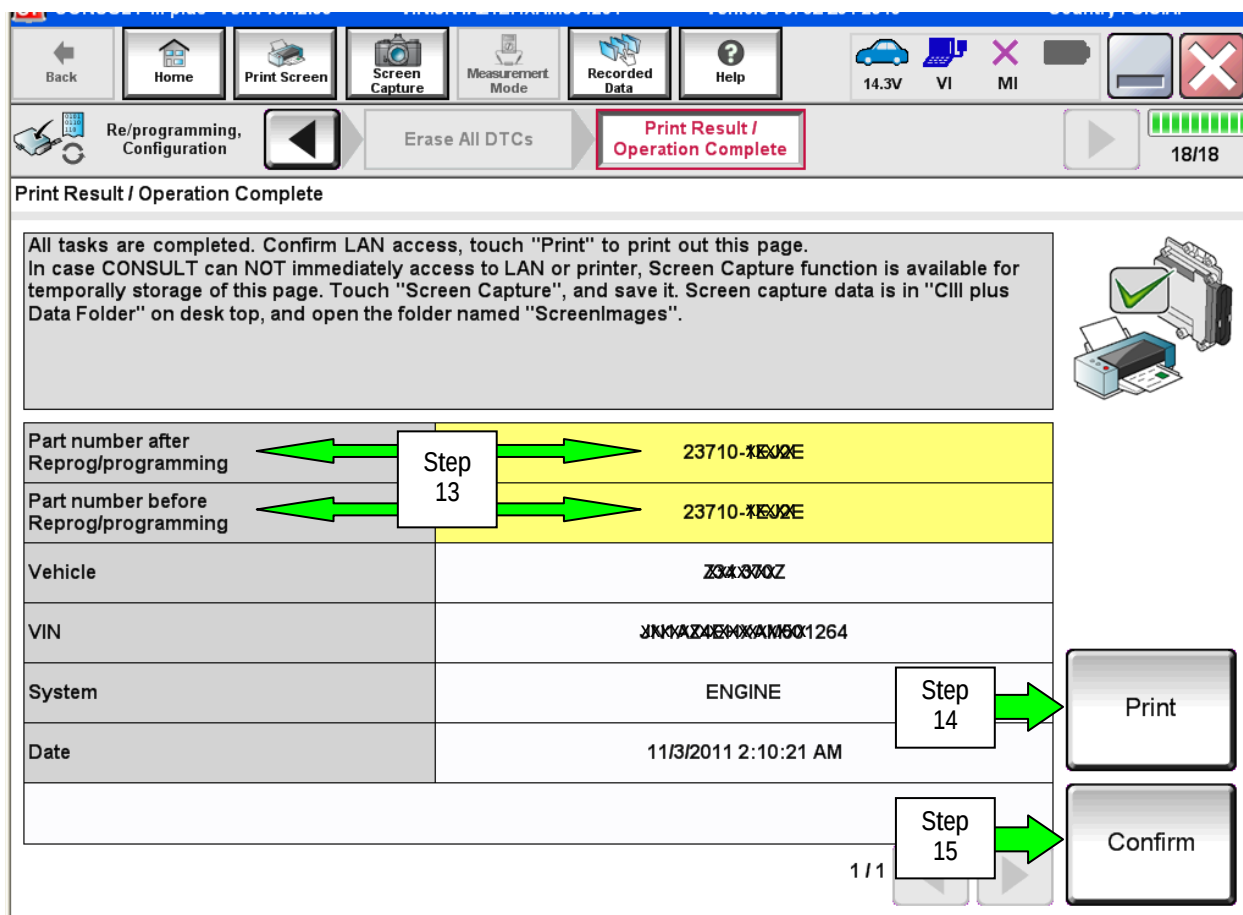

Figure 5
12. When the entire reprogramming process is complete, the screen in Figure 5 will display.
14. Print a copy of this screen (Figure 5) and attach it to the repair order for warranty documentation.